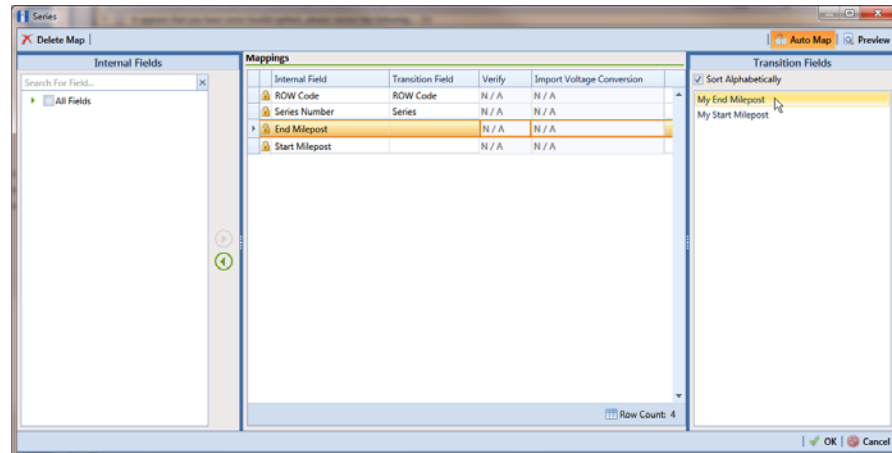

Figure 10-66. Field Mappings
- a Click  **Edit** in the *Maps* group box to open a field mapping window (Figure 10-66, page 517).
NOTE: Fields in the *Mappings* panel with a lock icon  are required fields for mapping, such as *ROW Code*, *Series*, *End Milepost*, and *Start Milepost* shown in Figure 10-66 (page 517).